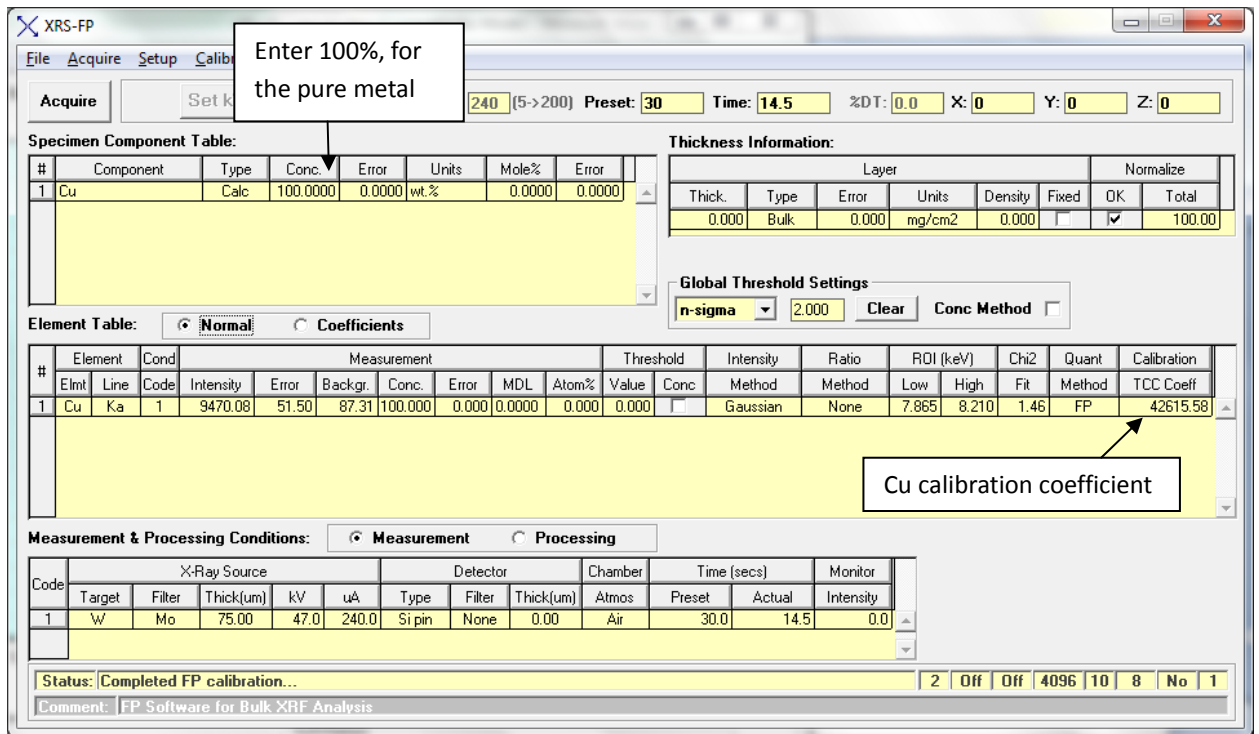

Figure 11
9.2. Generate the Cu Calibration Coefficient – **Calibrate>FP** a TCC calibration coefficient for Cu is generated – Figure 11